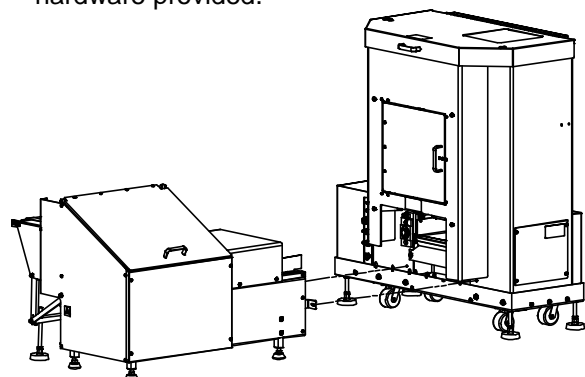

Figure 2-9. Elevator Attachment to Infeed Conveyor
- Align the elevator with the infeed conveyor and attach as shown in Figure 2-9 using the hardware provided.